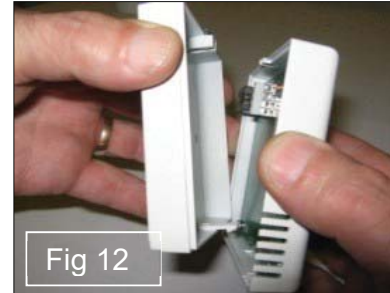

Fig 12
Step 1 Undo the screw on the top of the remote control case and pull the back case away (see Fig 12).
Step 1 Using a screwdriver undo the screw on the top of the remote control case and pull the back case away (see Fig 12).